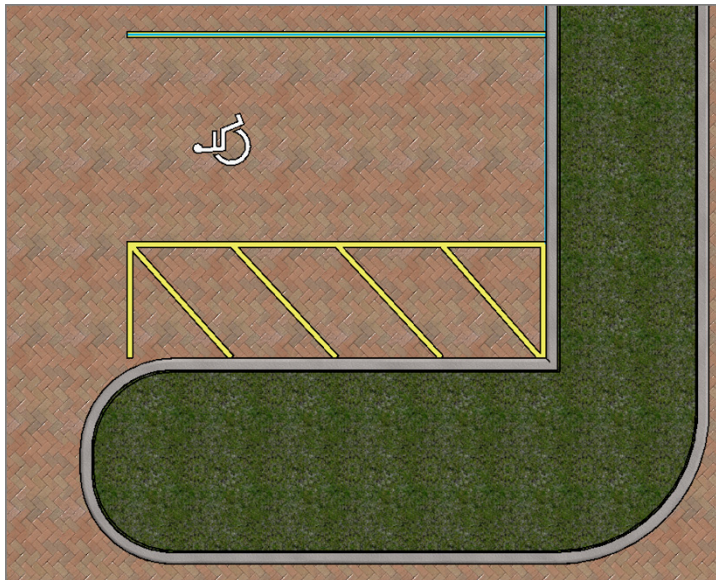

FIGURE 18.16: The ADA parking space
2. Select Parking Space - ADA 9' × 18' (5' Aisle) (2743mm × 5486mm). Place an instance as shown in Figure 18.16. Use the spacebar to rotate it properly.
4. Add Parking Symbol – ADA, and place it as shown in Figure 18.16.